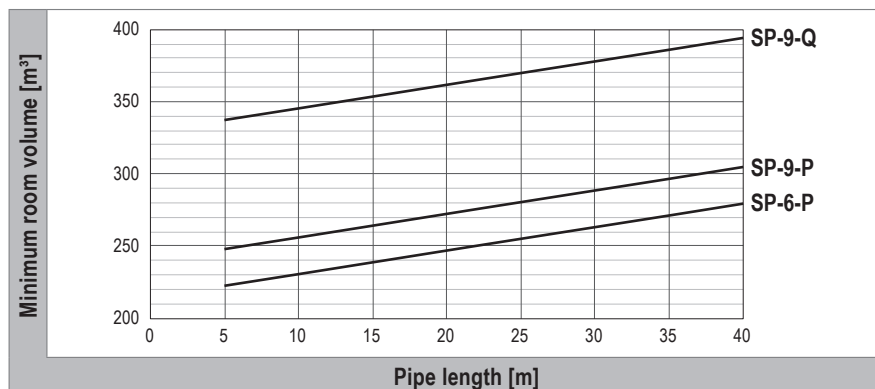

Fig. C3: Minimum room volume depending on the total refrigerant charge in accordance with EN 378
- The room volume corresponds to the minimum values shown in Fig. C3 meaning that the permissible QLMV value is not exceeded.